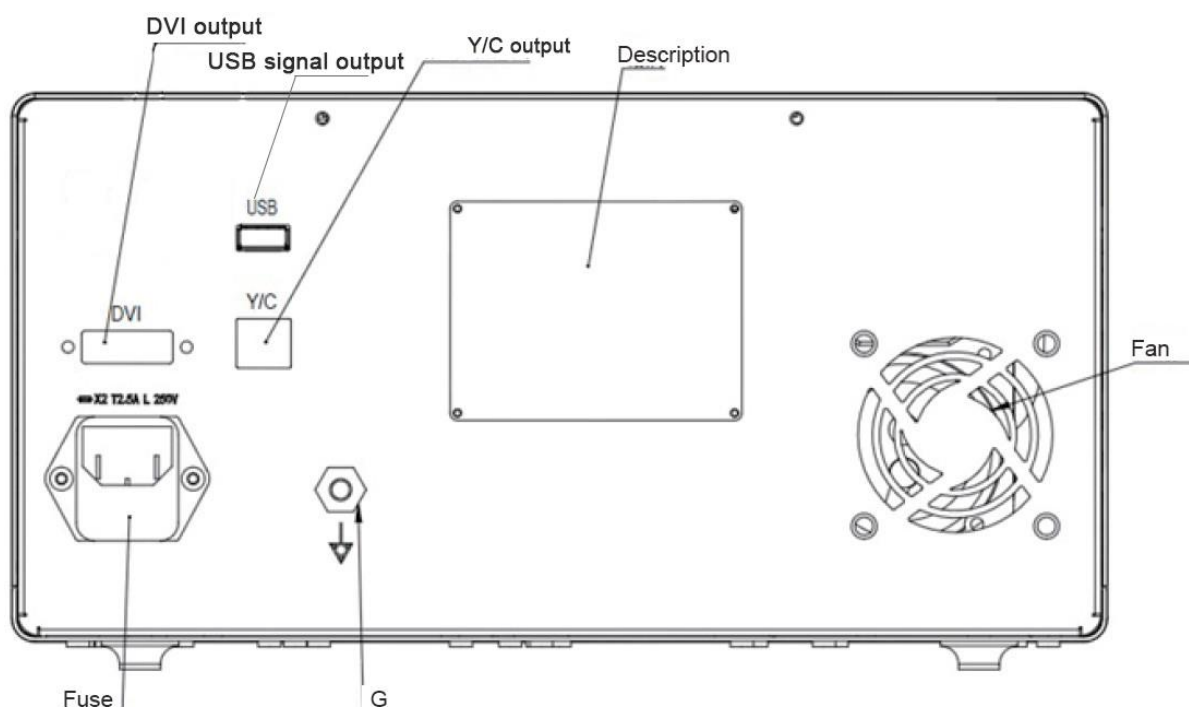

Figure 6.1
2. Rotate the fuse box straight out and replace the fuses (see Figure 6.1).